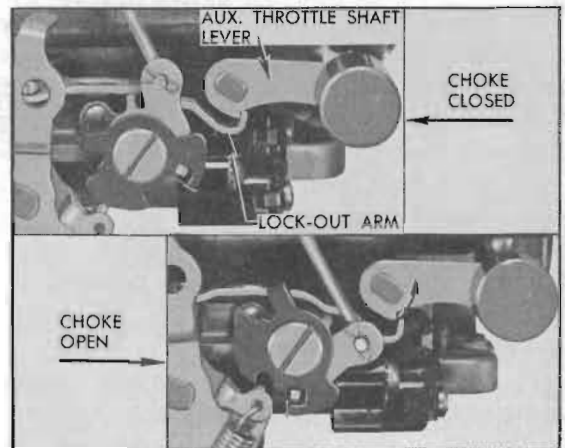

Figure 3-57—Lock-Out Arm Adjustment
41. With choke valve closed, the end of hook on lock-out arm should contact the auxiliary throttle shaft lever, making maximum engagement with locking step on lever. As choke valve is opened, the hooked end of lock-out arm should drop clear of locking step a few degrees before choke valve reaches wide open position. See figure 3-57. Bend end of lock-out arm up or down as required to meet these conditions. *Check for free operation of choke valve and fast idle cam.*